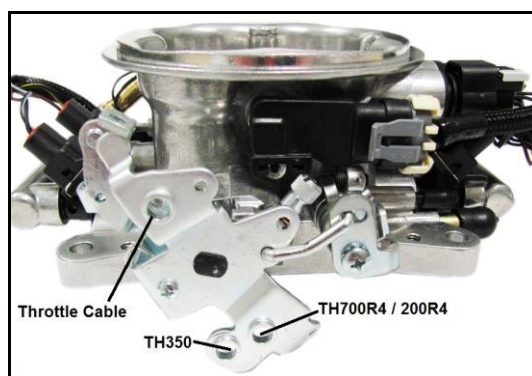

Figure 2
- The throttle body is designed to provide the proper cable geometry for TH350, TH200R, and TH700R4 transmissions as shown in **Figure 2**. Install the **Throttle and Transmission Studs (Items 20, 21, 22, and/or 23)** for your application in their dedicated holes and secure each with a **Lock Washer (Item 21)** and **¼-28 Nut (Item 22)**.